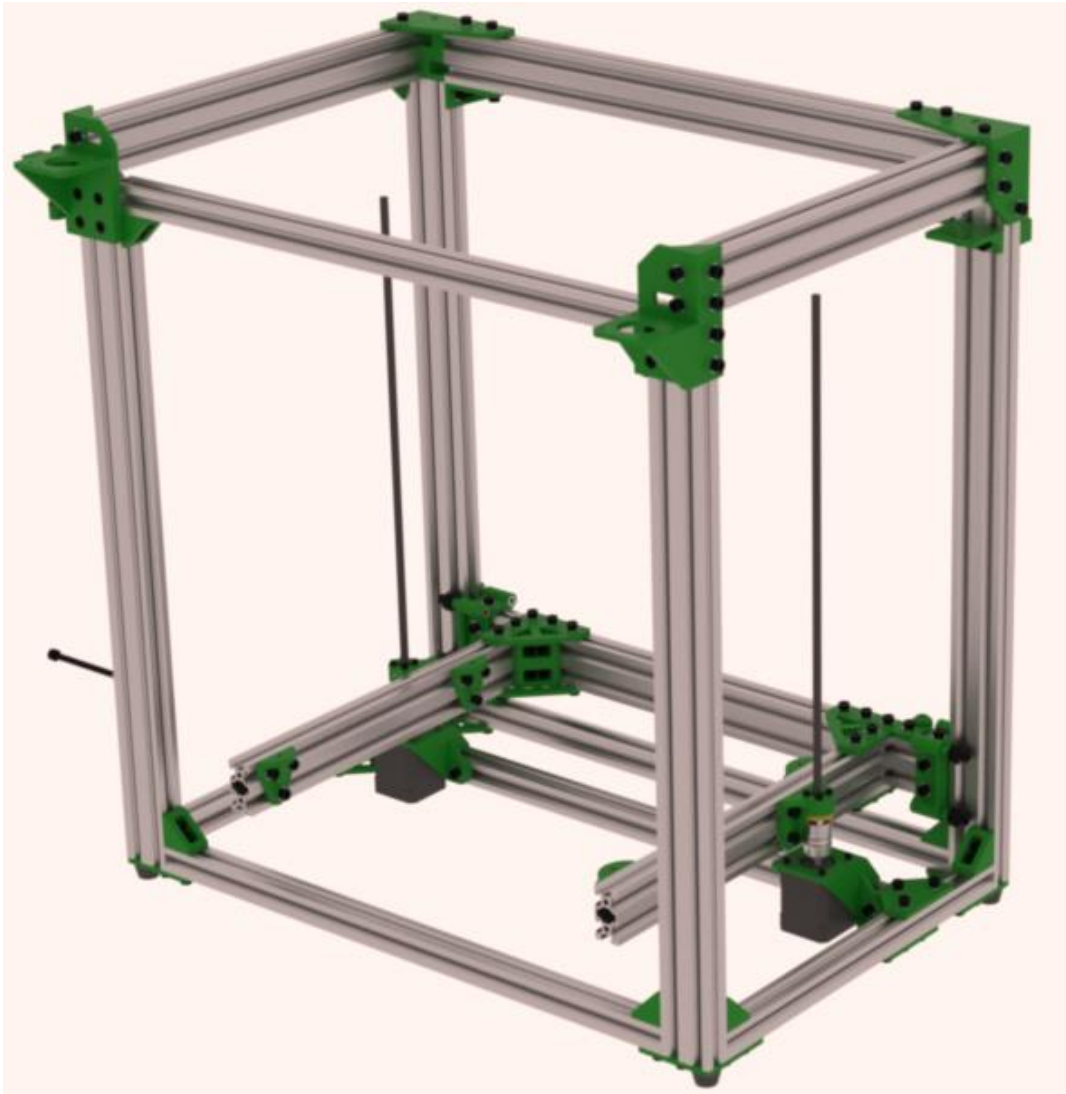

Figure 30: Lead Screw alignment
- When aligned properly, the bed should move from the top of the frame to the bottom without binding, and the lead screws should be vertically straight when the bed is at the bottom of the frame as shown in Figure 30.